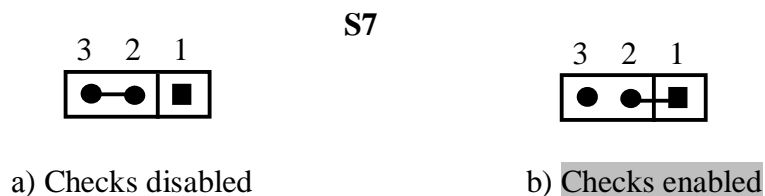

Figure 5.6 – Selection of the Mode of Encoder Signal Hardware-Based Interruption Checks
5.3.2.5 This channel performs a hardware-based check of the encoder signal interruption or of its power supply. Its operation mode is set by placing Jumper **S7** in accordance with Figure 5.6. The encoder signal break hardware checks are enabled by default.